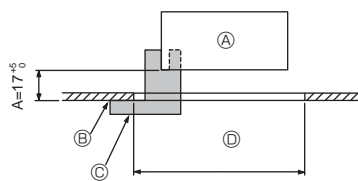
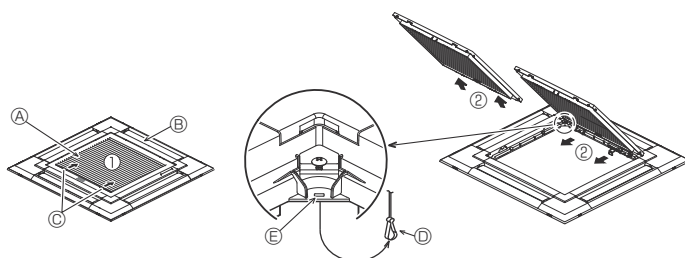
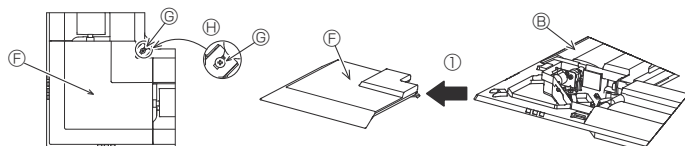

Fig. 9-2
Fig. 9-3
Fig. 9-4
①	Grille	1	950 x 950 (mm)
②	Installation gauge	1	(Divided into 4 parts)
③	Screw (4 x 16)	1	For PLP-6EAE, PLP-6EALME, PLP-6EALME
④	i-see Sensor corner panel	1	For PLP-6EAE, PLP-6EALME, PLP-6EALME
⑤	Wireless remote controller	1	For PLP-6EALM, PLP-6EALME
⑥	Remote controller holder	1	Included when equipped with the wireless remote controller.
⑦	LR6 AA batteries	2	Included when equipped with the wireless remote controller.
⑧	3.5 x 16 tapping screws	2	Included when equipped with the wireless remote controller.
9.2. Preparing to attach the grille (Fig. 9-2)
- With the gauge ② supplied with this kit, adjust and check the positioning of the main unit relative to the ceiling surface. If the main unit is not properly positioned relative to the ceiling surface, it may allow air leaks or cause condensation to collect.
- Ⓒ Installation gauge ② (inserted into the main unit)
9.2.1. Removing the intake grille (Fig. 9-3)
- Slide the levers in the direction indicated by the arrows ① to open the intake grille.
- With the intake grille in the "open" position, remove the hinge of the intake grille from the grille as indicated by the arrows ②.
9.2.2. Removing the corner panel (Fig. 9-4)
- Loose the 4 screws on the corner. Slide the corner panel in the direction of the arrow ① in the figure and remove the corner panel.
[Fig. 9-3] [Fig. 9-4]